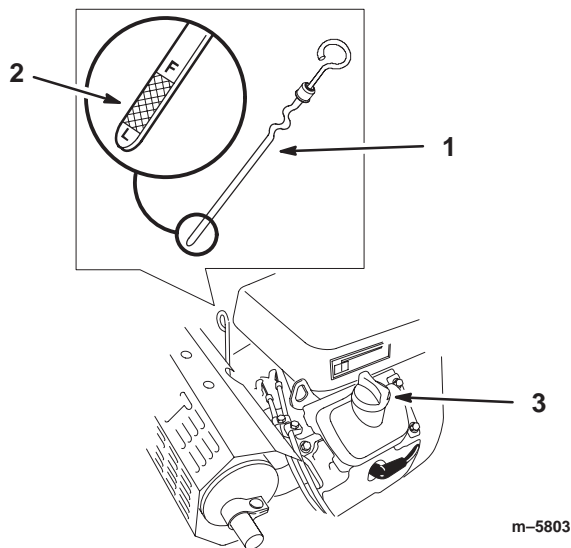

Figure 38
2. Clean around the oil dipstick (Fig. 38) so dirt cannot fall into engine.
3. Pull the oil dipstick and wipe the metal end clean (Fig. 38).
4. Slide the oil dipstick fully into the engine. Pull the dipstick out and look at the metal end (Fig. 38). If oil level is low, slowly pour only enough oil into the filler tube to raise the level to the full mark.
7. Slowly pour approximately 80% of the specified oil, on page 31, into the filler cap (Fig. 38). Now check the oil level; refer to Checking Oil Level, page 31. Slowly add additional oil to bring it to the full mark.